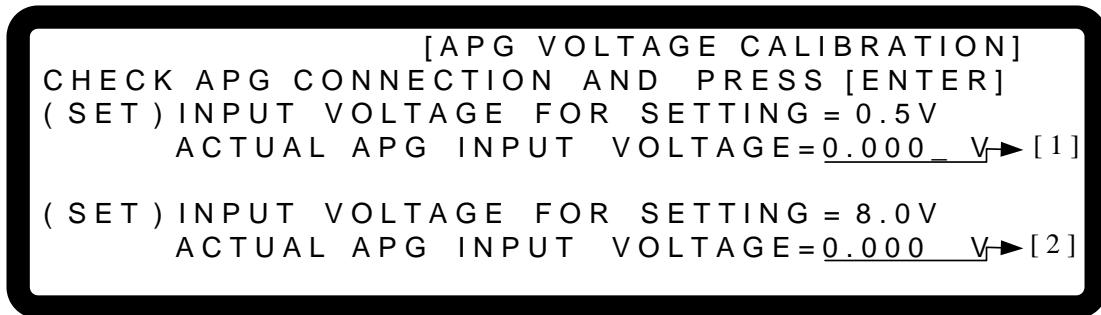

Figure 3-127
4. Input a 0.5V voltage signal on Pin 4. The cursor stops at position [1] as shown in Figure 3-127. Adjust the Power Supply to $0.5V \pm 0.2V$ and use DVM1 to measure the reading of the Power Supply. Input the voltage read by DVM1 and press “**ENTER**” to confirm.
5. Press “” and input an 8.0V voltage signal on Pin 4. The cursor stops at position [2] as shown in Figure 3-127. Adjust the Power Supply to $8V \pm 0.2V$ and use DVM1 to measure the reading of the Power Supply. Input the voltage read by DVM1 and press “[ENTER]” to confirm.